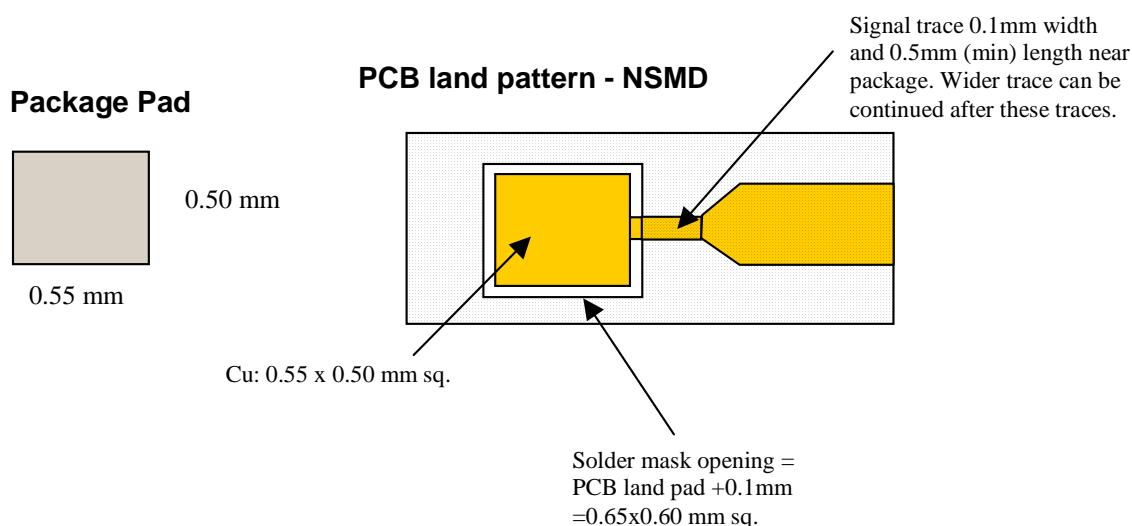

Figure 8. NSMD Solder Mask Design Guidelines
1. NSMD (Non Solder Mask Defined) is shown in Figure 8.
- min. 0.5mm length for all PCB land pad near package are recommended as shown in Figure 8 and Figure 9. Wider trace can be continued after the 0.5mm zone.